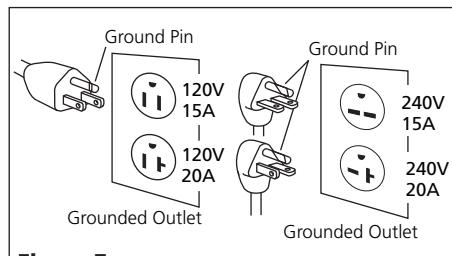

Figure 7
1. This product must be grounded. In the event of an electric short circuit, grounding reduces the risk of electrical shock by providing an escape wire for the electric current. Unit is equipped with a cord that has a grounding prong. It will fit one of the common outlet types shown in Figure 7. If plug will not fit in the desired outlet, have the outlet replaced by a qualified electrician.
- If the plug on the electrical cord of the unit is unfamiliar to you or will not fit your particular receptacle, Figure 7 will help you understand why by illustrating the different plugs and the voltages they are to be used with.